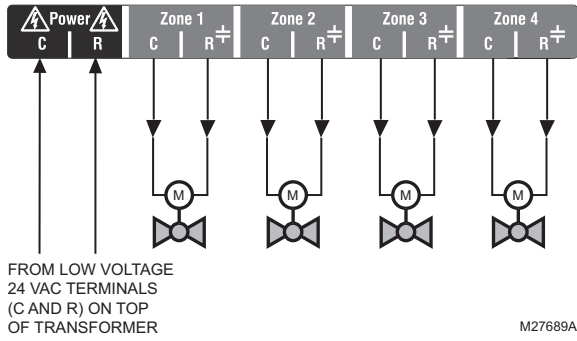

Fig. 12. Wiring an AQ15540B Zoning Module for use with low voltage zone valves without end switches.
- Low voltage zone valves without end switches: Using Fig. 12 on page 10 as a guide, run jumper wires from the R and C terminals on the secondary of the AQ251's transformer, through the wiring channel across the top of the Control Panel, and down through the wiring channel on the right side of the panel and over to the R and C terminals on the bottom of the Zoning Module.